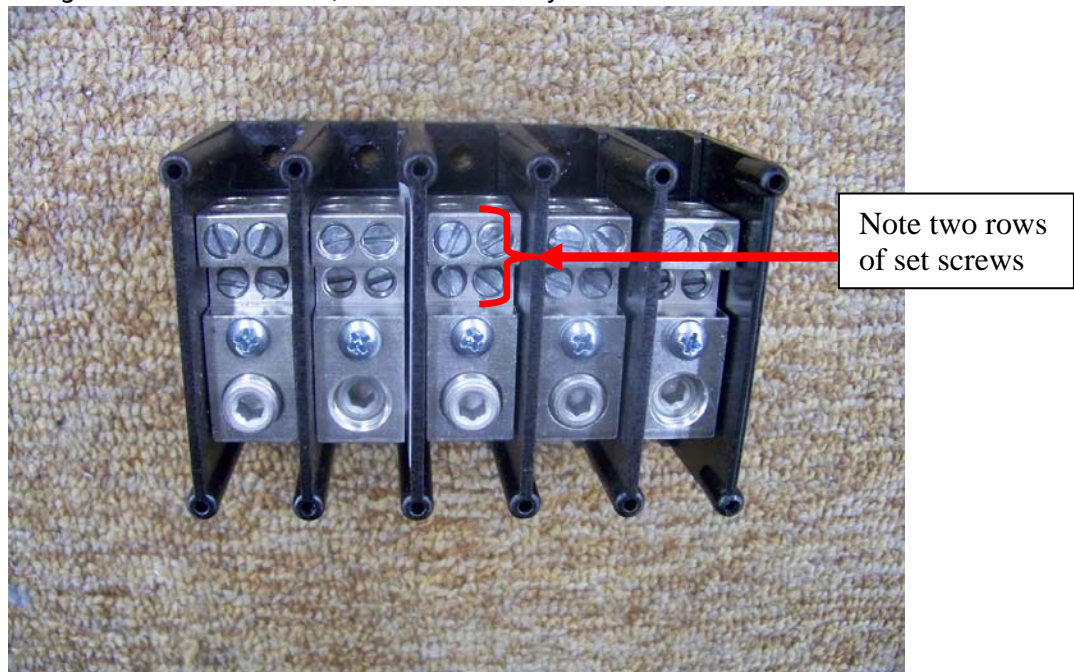

Figure 6. TB2 detail, DO NOT REMOVE TB2 (shown out of chassis for clarity).
5.2. Remove the black and blue status wires from top using a Philips screw driver. Also see figure 6.